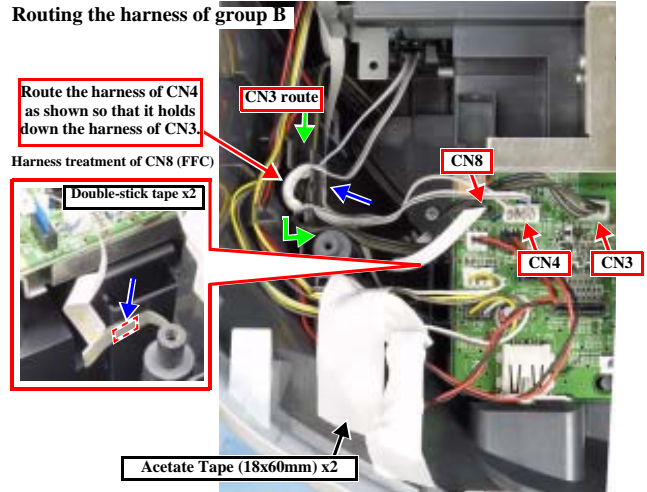

Figure 4-18. Routing the Harness of Group B
5. Fasten the ferrite cores with tape. (Fig. 4-18)
6. Route the harnesses of group B in the order of the power supply harness (CN3) → PF Encoder (CN8) → CD-R Sensor (CN4), and connect them to the circuit board. (Fig. 4-18)